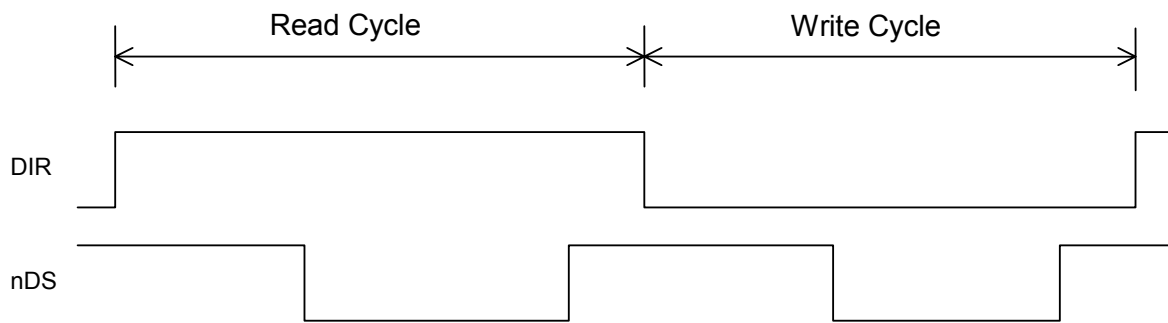

Figure 3- Motorola CPU Mode (68hxx)
- Peripheral mode: This pin selects the CPU type; in this case, the definition of nWR/DIR (pin) and nRD/nDS (pin) are selected (refer to Figure 3 - Motorola CPU Mode (68hxx)).